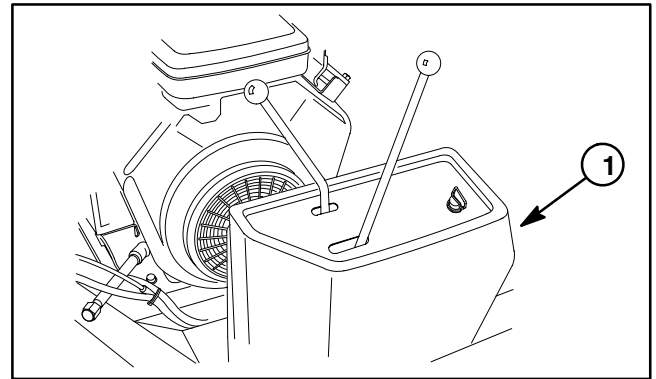

Figure 23
4. Remove control cover from machine (Fig. 23).
5. Disconnect hydraulic hoses (items 15 and 21) from 90° hydraulic fittings (item 18) on lift control valve. Allow hoses to drain into a suitable container. Discard o-rings.
7. Remove connecting link assembly (item 8) that attaches lift valve handle to lift control.
8. Remove four (4) hex nuts (item 10), lock washers (item 9) and cap screws (item 2) that secure control valve to control panel.
2. Position control valve (1) to machine and secure with four (4) cap screws (item 2), lock washers (item 9) and hex nuts (item 10).
3. Attach lift valve handle to lift control with connecting link assembly (item 8).
6. Install control cover (Fig. 23).